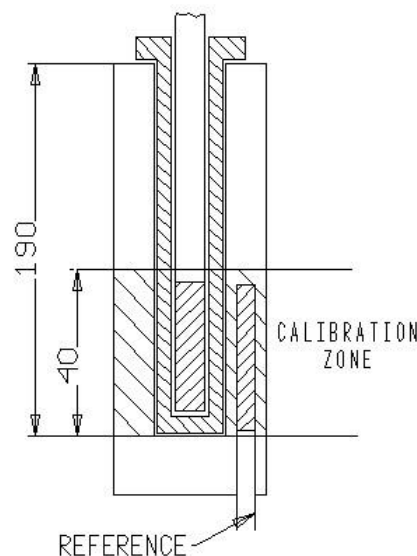

Fig.2
- Insert the probe up to the bottom of the block: the sensitive element is in the optimal calibration zone (fig. 2).